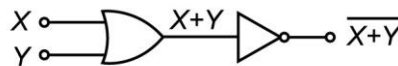

Fig. 2.4: Circuit to build $\overline{X+Y}$.
1. Take one quad 2-input OR gate IC 7432 and one hex inverter IC 7404. Connect them as shown in Fig. 2.4 on a breadboard.